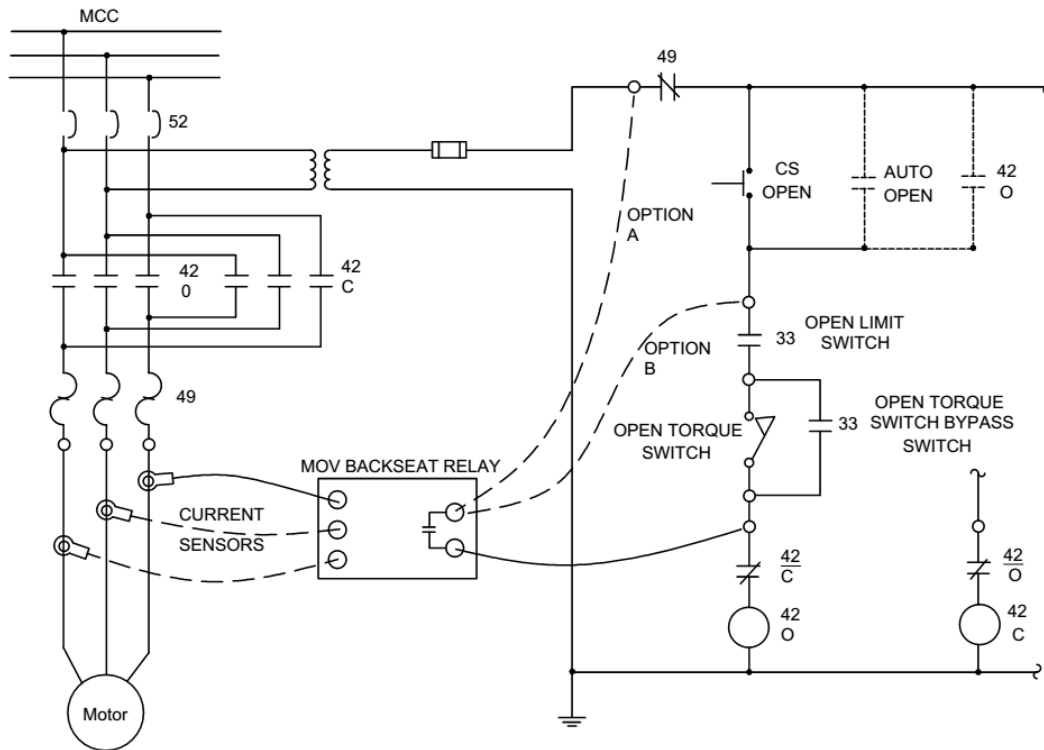

Figure 2: Typical Connection Diagram for 3 Phase AC
- 5.3 Connect test leads from the yellow relay contact jacks to parallel with the limit switches in the motor control cabinet. Typical connection points are shown in Figure 2. Option A gives full control to the relay. With option B, the relay just bypasses the limit switches.
- Motor Start From – Select the connection option as described in Figure 2. When B-Control Panel is selected, the probe failure detection at the start of run will be disabled.
- FAILED PROBE TRIP will occur if all probes became disconnected during the operate phase or if no current was detected at motor start from this device (Figure 2 option A).